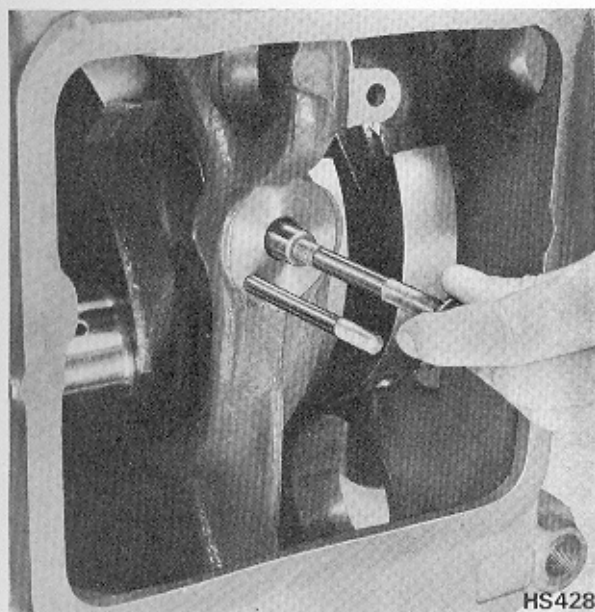

Fig. 63 Removing Bearing Locating Dowel
- (f) Insert a $\frac{3}{8}$ " UNF bolt into the end of the centre bearing(s) locating dowel and remove (Fig. 63).